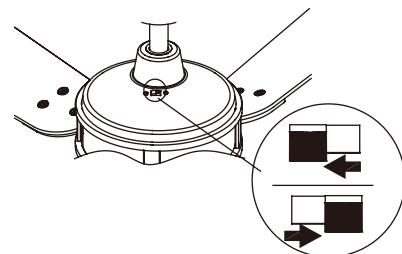

Fig. 28
**Warm Weather Operation:** Forward (counterclockwise) A downward airflow creates a cooling effect . This allows you set your air conditioner on a warmer setting without affecting your general comfort. (Fig. 28)
**Cool Weather Operation:** Reverse (clockwise) An upward airflow creates a warm air off the ceiling areas. This allows you set your air conditioner on a cooler setting without affecting your general comfort. (Fig. 28)